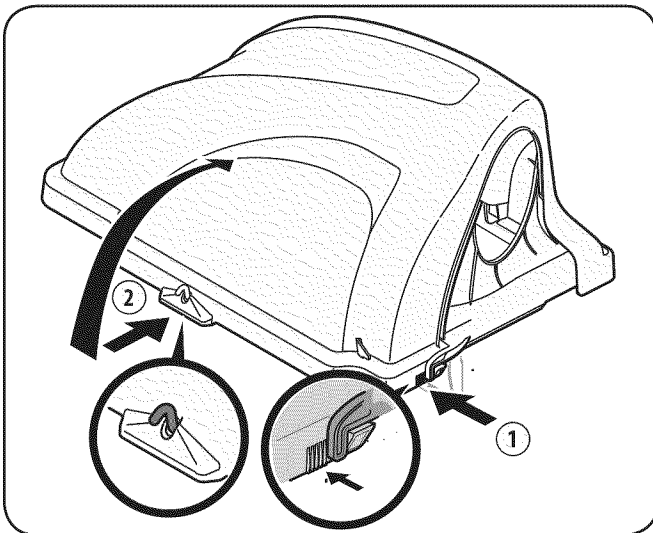

Figure 4-14
7. Open Hood by pushing in on the rear, right-side tab with your right hand, as seen in 1 of Fig. 4-14, and lifting the cover with your left hand in the center rear of the bagger cover, 2.